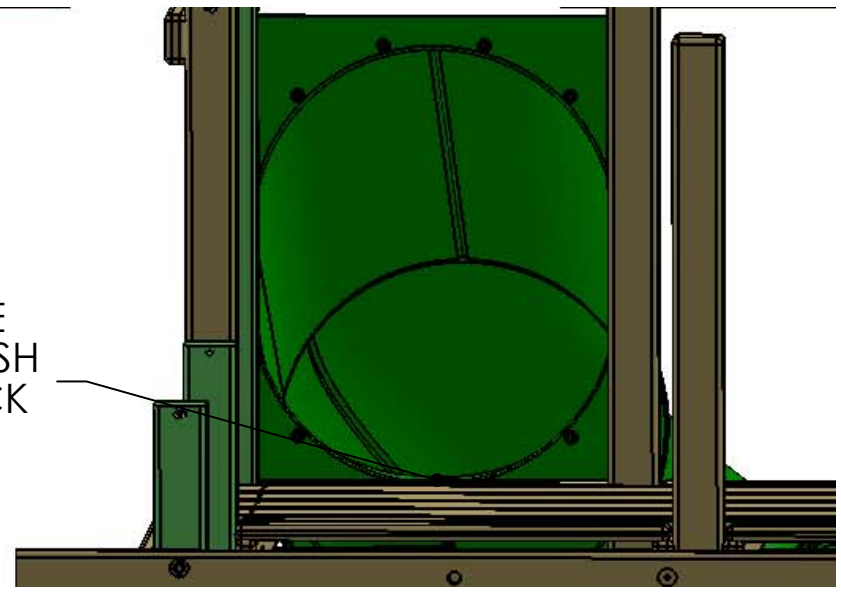

Fig. 7
1. Position the 90 section to the entrance section so the seams line up. Rotate the section two holes to the right (clockwise) and realign with the holes of the entrance section (see Fig. 7).